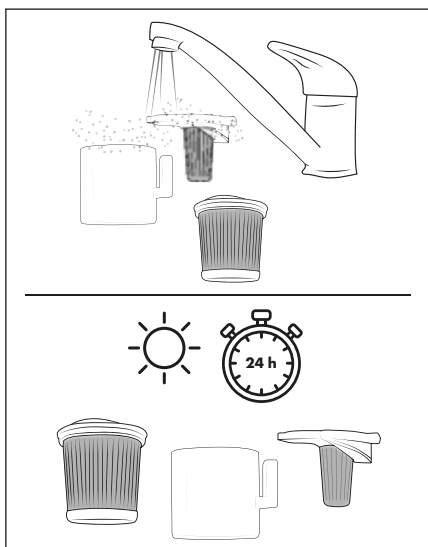

Fig. 18
- 5) Rinse the HEPA filter holder **5**, HEPA filter **4** and stainless steel filter **6** under cold or lukewarm water. Allow the HEPA filter holder **5**, HEPA filter **4** and stainless steel filter **6** to air dry completely before putting them back into the dust container **7** (see Fig. 18).